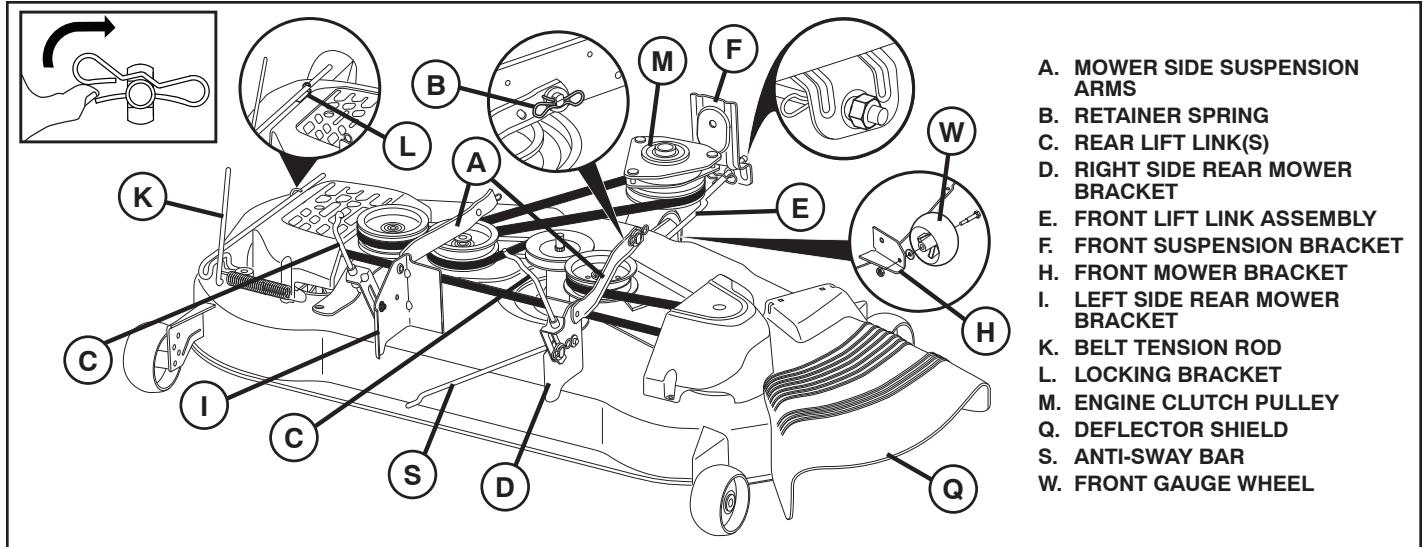

Fig. 8
9 INSTALL BELT ON ENGINE CLUTCH PULLEY (M) (See Fig. 8 and 15)
- Disengage belt tension rod (K) from locking bracket (L).
- Install belt onto engine clutch pulley (M).